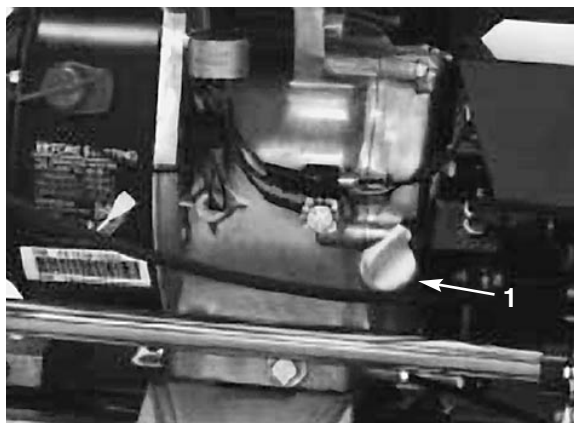

Figure 1
1. Position the mower so the engine is level and clean around the oil level gauge (Fig. 1).